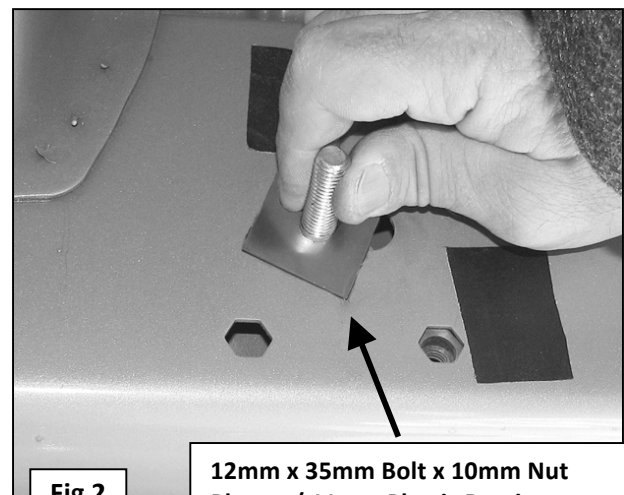

Fig 2
- Starting at the driver side-front of the vehicle, remove the sealing tape covering the factory holes on the side of the inner panel, **(Figure 1A, 1B, 1C)**. Partially thread (1) 11mm Plastic Retainer onto the threaded end of (1) 12mm Bolt and Nut Plate. Insert the Bolt and Nut Plate into the factory oval hole. Continue to thread the Plastic Retainer down the Bolt and Nut Plate until it is flush against the sheet metal, **(Figure 2)**. **NOTE:** When properly installed, the Plastic Retainer is designed to prevent the Bolt and Nut Plate from falling into the body cavity during installation.